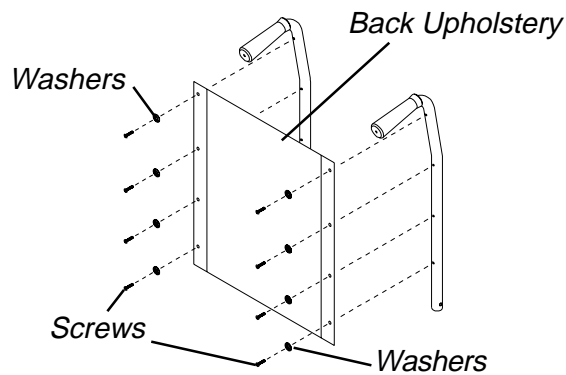

FIGURE 2 - REPLACING BACK UPHOLSTERY
REPLACING THE BACK UPHOLSTERY (FIGURE 2)
2. Position new back upholstery on back canes as shown in FIGURE 2.